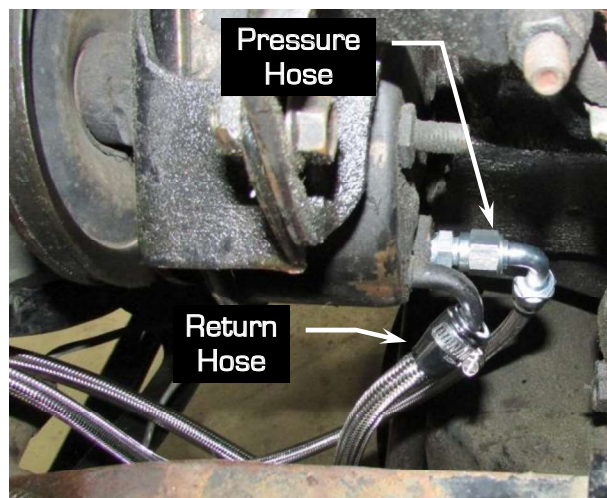

Figure 13 - Attach Hoses to Pump
16. Attach the pressure and return hoses to the back of the power steering pump (Figure 13).